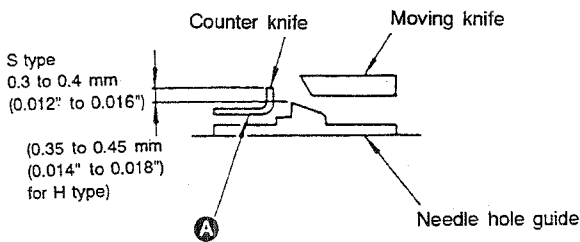
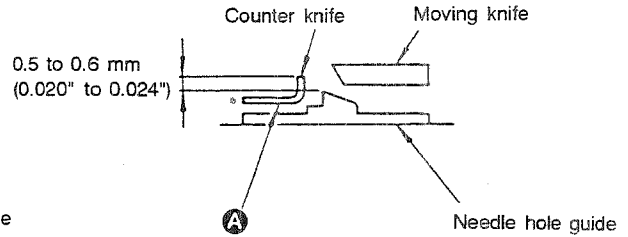

Fig. 5-14-2
Fig. 5-14-4
- A. If the difference in height between the needle hole guide and the blade of the counter knife is out of the specified value, adjust the difference in height properly by jarring section A (in Fig. 5-14-2 and Fig. 5-14-4) with a screwdriver or the like. (At this time, be sure that the blade of the counter knife is in parallel to the throat plate mounting surface.)